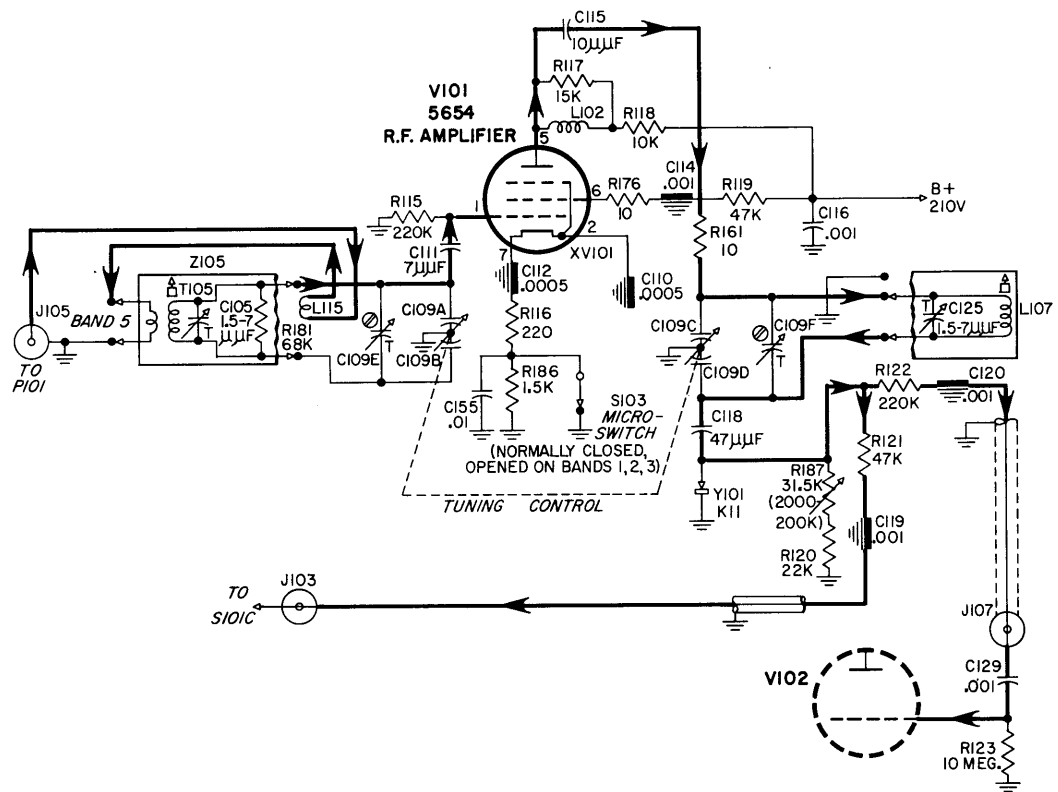

Figure 2-4. R.F. Amplifier Stage, Simplified Schematic Diagram
c. R.F. AMPLIFIER (See Figure 2-4).—A type 5654 sharp cut-off pentode is used as the R.F. Amplifier V101. From J105 the signal is coupled to one of the grid inductances (T101 through T108) or L101 depending upon the position of the Band Change control. This coupling is accomplished by means of inductor L115 for band 9 and the primary of the respective transformer for bands 1 through 8. For any of the first 8 bands inductor L115 appears as a short circuit due to its very low inductance. The secondaries of transformers T101 through T108 are tuned by tuning slugs and capacitors C101 thru C108. Bands 1 through 8 have their secondaries shunted by resistors R177 through R184, respectively, to equalize the gain of all bands. Bands 1 through 7 use iron slugs while band 8 uses a